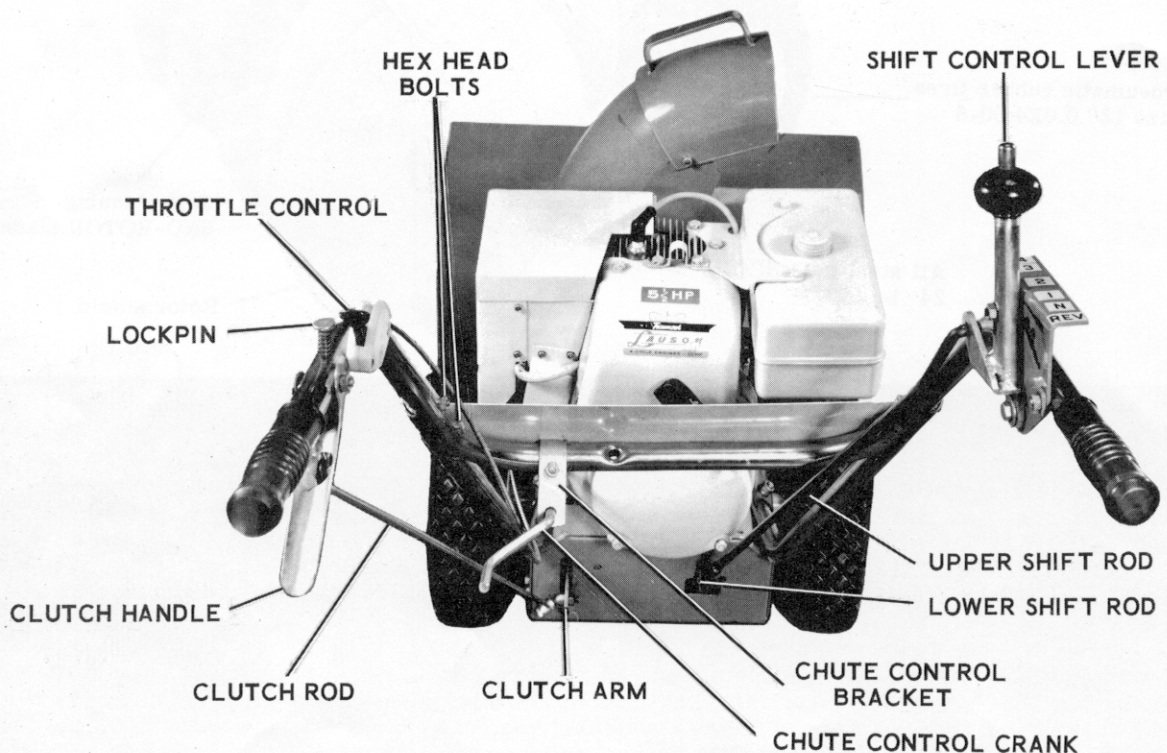

Figure 1
d. Slide the upper handle bar in place between the curved portions of the lower handle bars (Fig. 1).
a. Position the shift control on the inside of the handle bars on the right hand side so that the holes in the control line up with the holes in the handle bar. Fasten the control to the handle bar with two hex head cap screws and lock in place with locknuts (Fig. 1).
- a. Slide the chute adjustment rod through the hole in the bracket mounted on the left hand side of the handle bar (Fig. 1).
- a. Using the two self-tapping screws provided, fasten the throttle control lever to the inside of the left hand handle bar (Fig. 1).